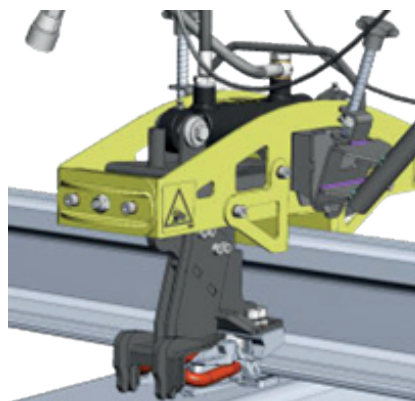

Fig 43.
3. Push the machine forward until the claws are correctly placed along the clips ("Fig 43."). Make sure that the claws are placed in a proper position relative to the clip.